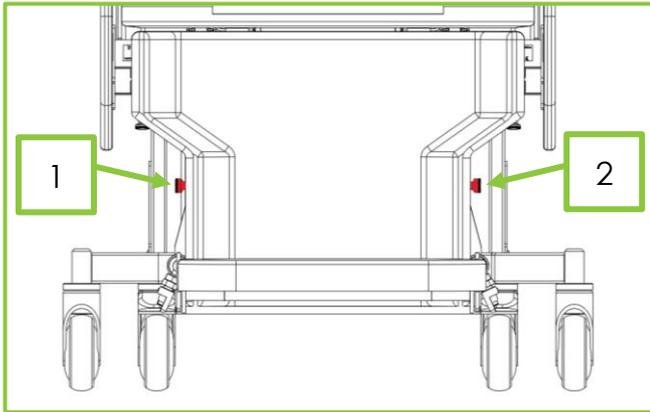

Figure 16
3. Locate the footplate height adjustment plungers on either side of the leg rest (Fig 16, Items 1&2).